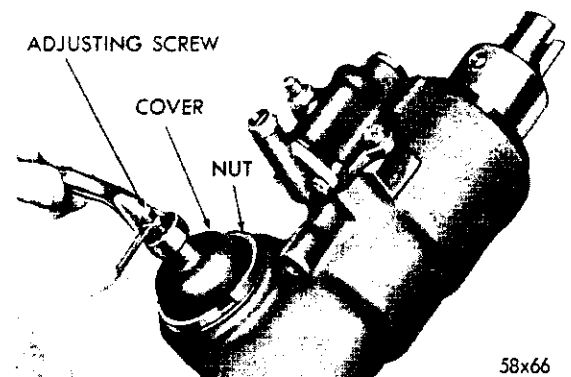

Fig. 50—Steering Gear Shaft Adjustment
(5) Refill the reservoir before proceeding with the following test and adjustments on the bench:
b. With the gear shaft on center, tighten the gear shaft adjusting screw until the backlash just disappears. Tighten $1\frac{1}{4}$ turns from this position and while holding the adjusting screw in this position, tighten the lock nut (Fig. 50).